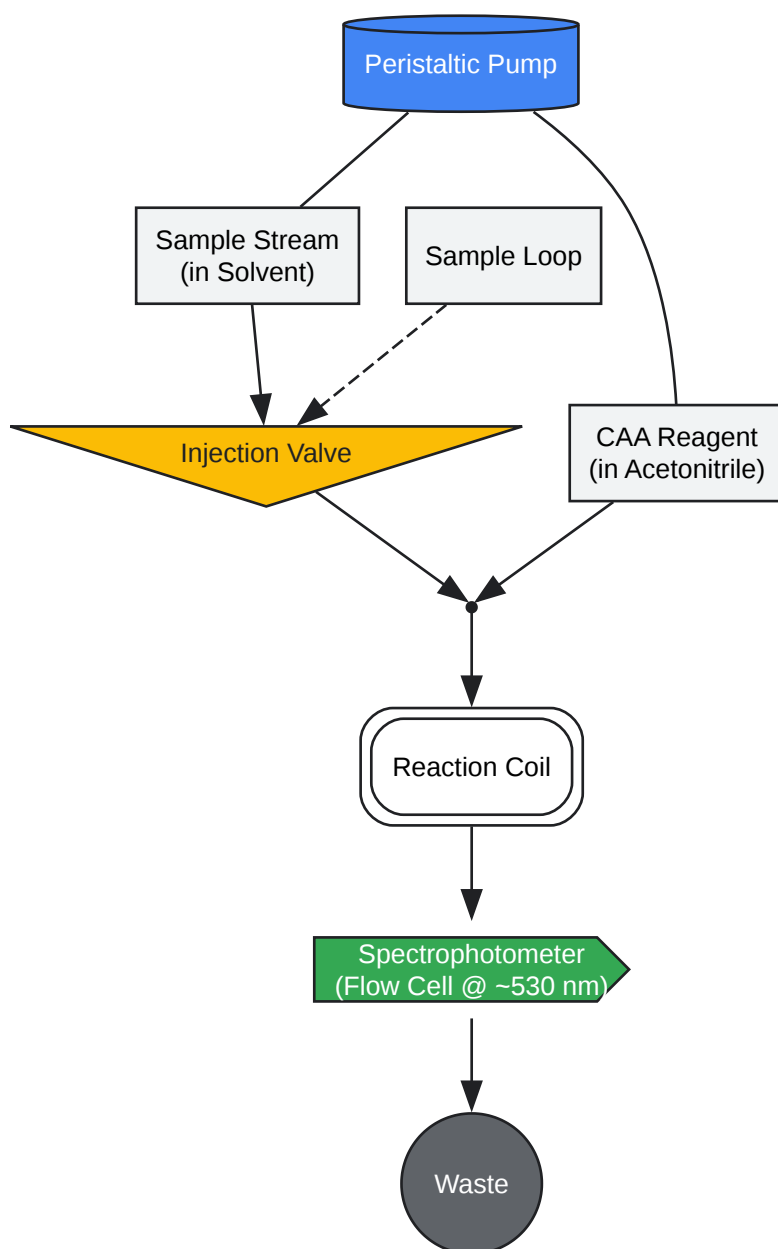

Fig. 3: Two-Channel FIA Manifold for Direct Analysis
- **System Optimization:** Assemble the FIA manifold as shown in Figure 3. Optimize parameters such as flow rate, reaction coil length, and reagent concentration to achieve maximum sensitivity and peak sharpness.